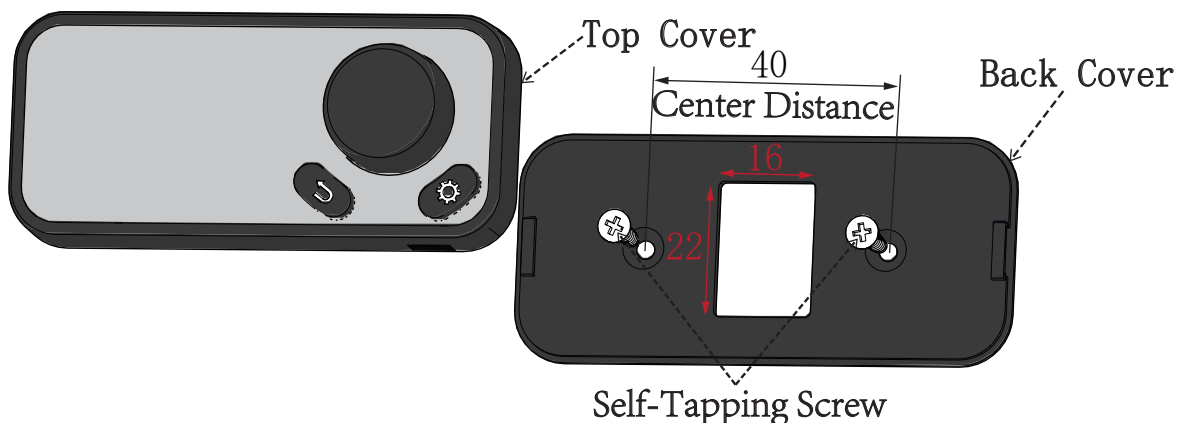
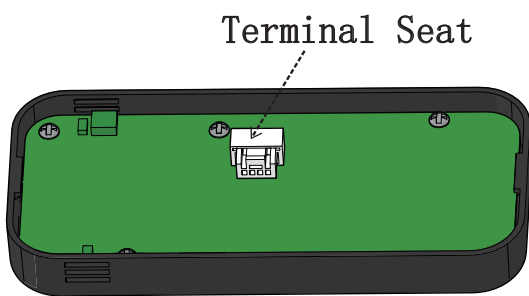

Figure 1
Figure 2
- The opening size of control switch is 16mm × 22mm, refer to "Figure 1"
2. Insert the tapping screw into the mounting surface as shown in Figure 1, and fix the back cover on the mounting surface.
- 3 Insert one end of the control switch lead wire into the PCB board terminal as shown in Figure 2, and the other end through the back cover and installation opening as shown in Figure 1.